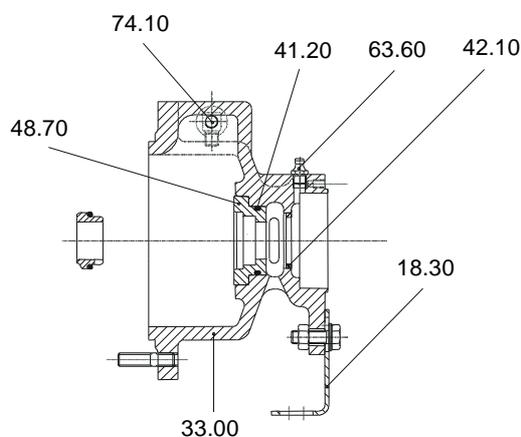

Fig. 8
16. Carefully press out the mechanical seal stationary seat from the bearing housing 33.00 (Fig. 8).